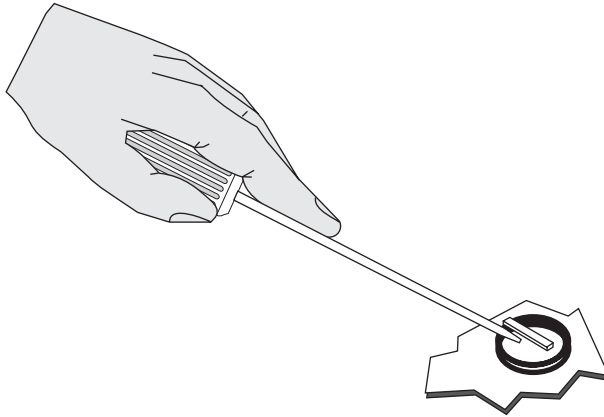

Figure 37: Removing the Battery
6. Gently pull the battery from its socket, and press the new battery in the socket with the positive pole (+) up (see Figure 37). Be sure you have pressed the battery down far enough for it to contact the base of the socket.